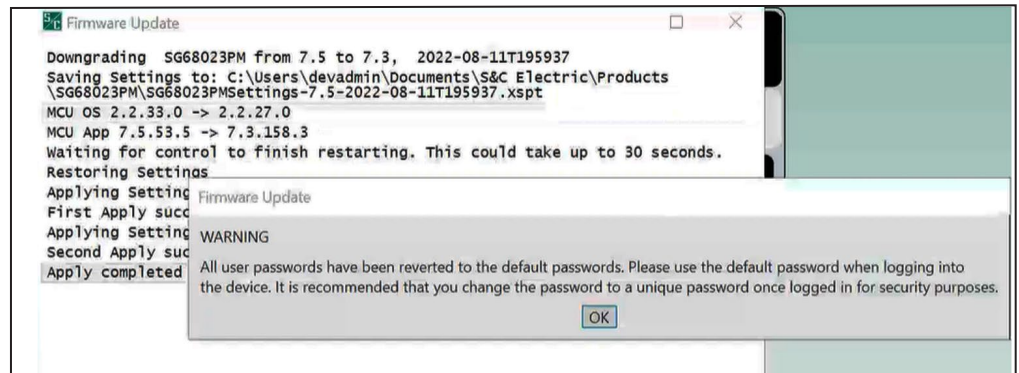

Figure 38. The message that appears after reverting passwords to defaults after a downgrade process completes.
STEP 20. When downgrading from a software version of 7.3.100 or later to a software version 7.3.x or earlier, a message will appear about the passwords being reverted to defaults after the downgrade process completes. Click on the **OK** button to proceed. See Figure 38.